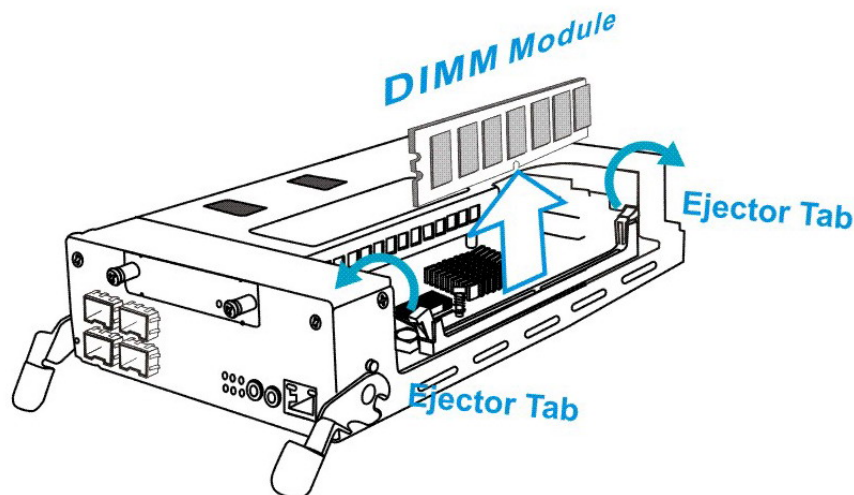

Figure 5-6: Removing a DIMM Module
**Step 3.** *Remove the previously installed DDR RAM DIMM module.* To remove the previously installed module, push outward on the ejector tabs, the module will pop-up from the socket. (See *Figure 5-6*)